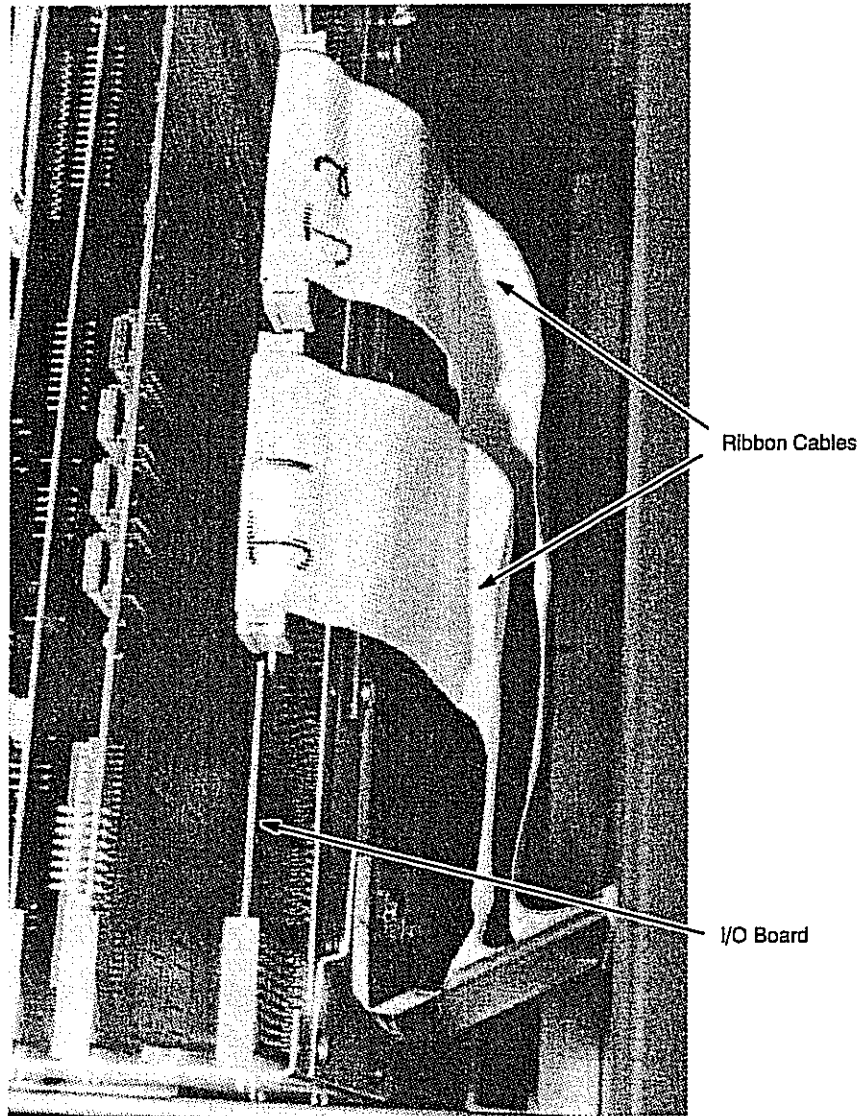

Figure 7-57. TD-2 Tape Drive Ribbon Cables
8. After the cover over the logic boards has been removed, disconnect the ribbon cables from the I/O board. Refer to Figure 7-57.